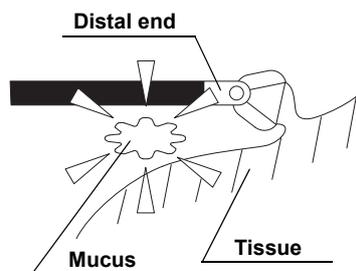

Figure 4
- Aspirate fluids, such as mucus, that adhere to the distal end of the insertion portion and body cavity tissues. If output is activated with these fluids left attached, it could cause patient injury, such as perforation, bleeding, mucous membrane damage, or thermal injury (see Figure 4).